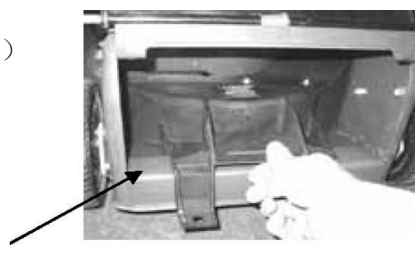

Figure 8. Mulch plug installation
- ★ Align the two locating pins (1) (on the underside of the mulch plug) with the slots (2) in the top surface of the back ledge (3) of the mower base and lower the mulch plug until the lower face rests flat on top of the back ledge of the mower base. Refer to figures 8 & 10.
- ★ Grasp the rear of the mulch plug and lift up and away from the mower. Refer to figures 8 and 10.